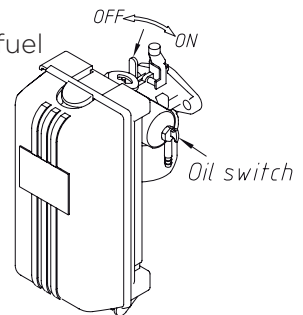

Figure 4
5. Starting warm engine (Fig.4)